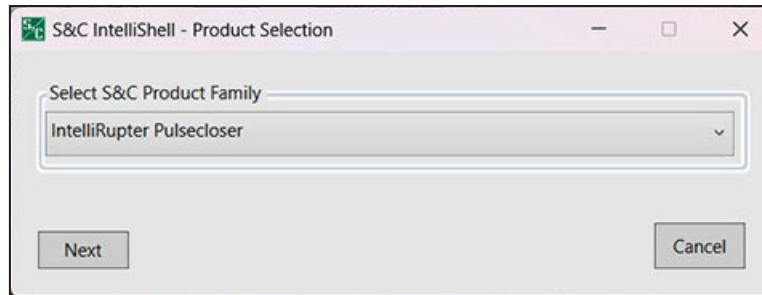

Figure 14. The S&C IntelliShell—Product Selection dialog box.
STEP 3. Select the **IntelliRupter Pulsecloser** option and click on the **Serial** button to make a serial connection, or click on the **Wi-Fi** button to make a Wi-Fi connection. See Figure 14.